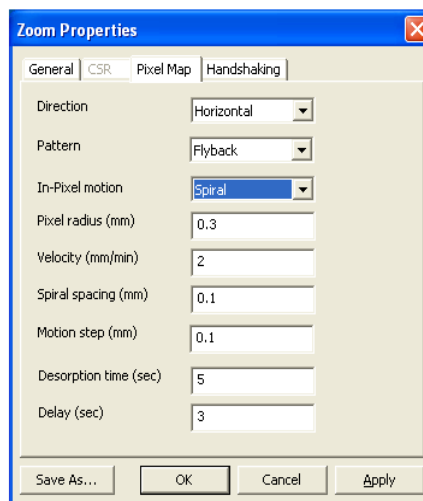

Figure 7.32 Pixel Map Properties
3. Choose the necessary properties for the data in the **Pixel Map** tab; the properties should be specified to the user's needs. Figure 7.32 shows a screenshot of the default settings: